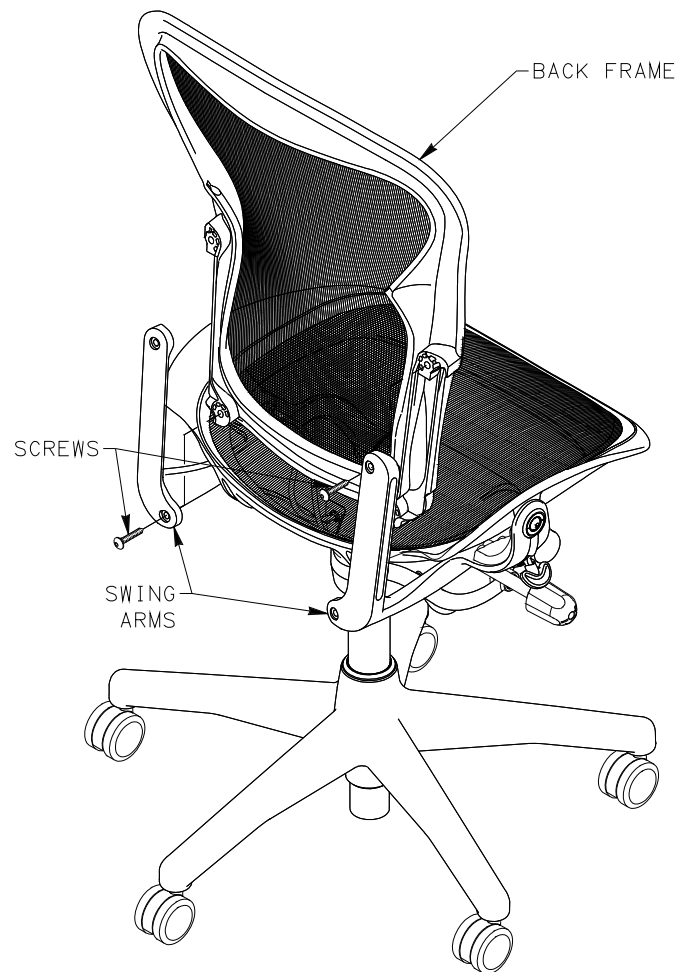

FIGURE 1
7. PLACE BACK FRAME UP TO SWING ARMS ALIGNING HOLES. SECURE WITH SCREWS. USING TORQUE WRENCH AND 5MM HEX BIT, TORQUE SCREWS TO 70-100 IN-LBS. SEE FIGURE 1.